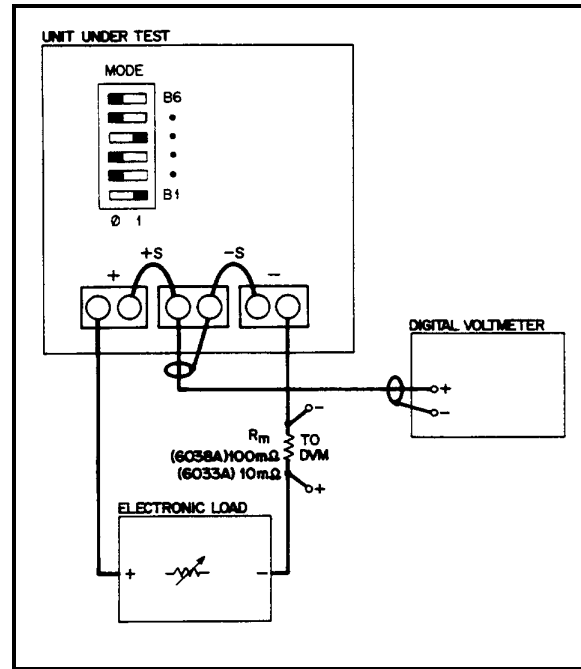

Figure 2-5. Basic Test Setup
- Connect the test equipment as shown in Figure 2-5. Operate the load in constant resistance mode (Amps/Volt) and set resistance to maximum.
Use the equipment setup of Figure 2-5 to display output voltage transients while switching the load between 10% with the output set at:
- a. Connect the test equipment as shown in Figure 2-5. Operate the load in constant-current mode and set for minimum current.
- Connect test setup shown in Figure 2-5, except replace the load with a short circuit.